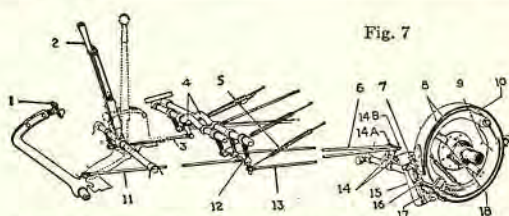

Fig. 7
Fig. 7. Brake connections where rods connect the foot-brake pedal and hand-brake lever with an external band and internal brake shoes. The foot pedal operates the external brakes and the hand lever operates the internal brakes. Note that the clevises (14) are used for "distance" or "pedal and lever adjustments," whereas (7) and (16) are used for "brake-band clearance" adjustment. Note that the internal brake shoe has a cam action.
The adjustment of the external contracting brake (Fig. 7), which is the foot brake, is similar to the adjustment explained on page 889 (Fig. 10).
The adjustment of the hand brake (Fig. 7) can be tried by pulling the wheels by hand to determine that equal braking effort is applied to both rear wheels when the hand-brake lever is partly set, and that both lock at the same time with the wheels jacked up.
5. Inspect anchor pins and lever pins on the brakes for wear; also clevis pins (see Fig. 7, page 885). Replace pins if worn. Clean and lubricate if rusted or dirty. These parts are often overlooked.